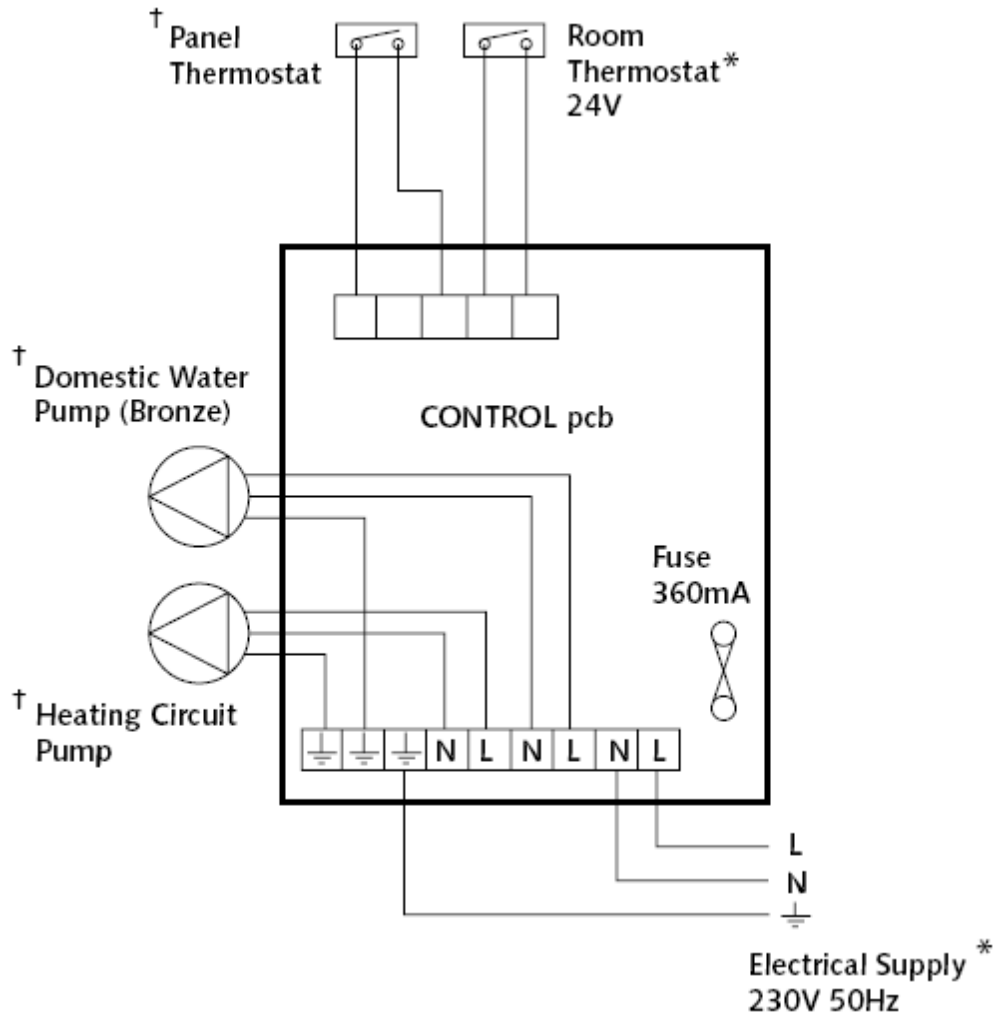

Fig. 5 WIRING DIAGRAM
3. Electrical connections (see Fig.5 page 5).